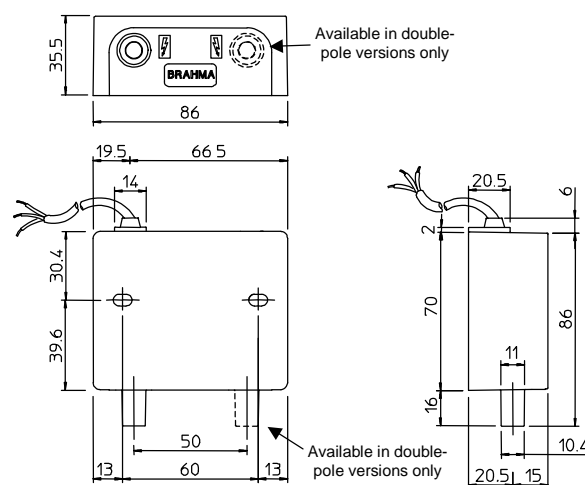
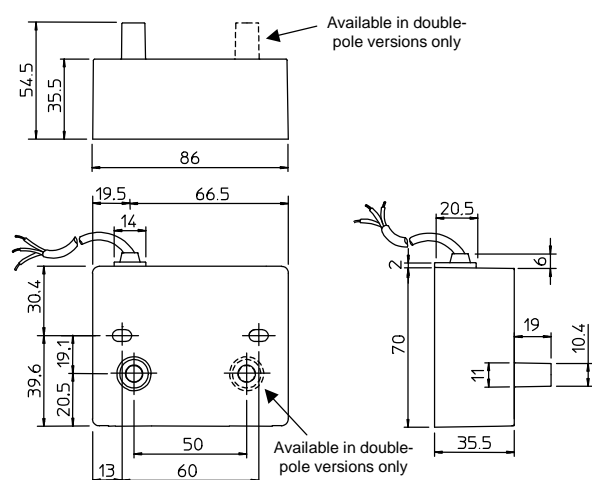
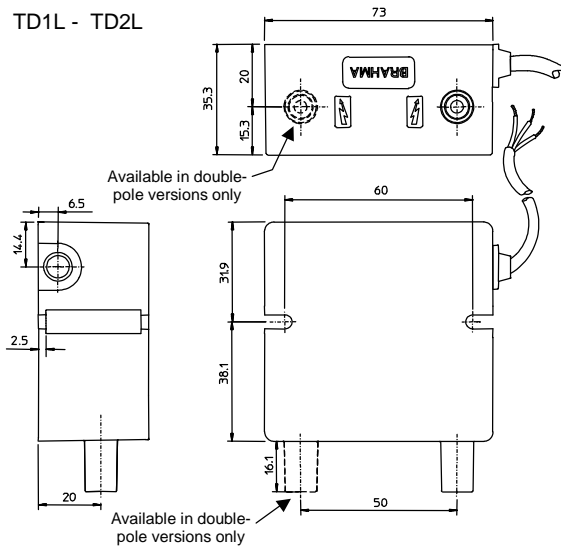
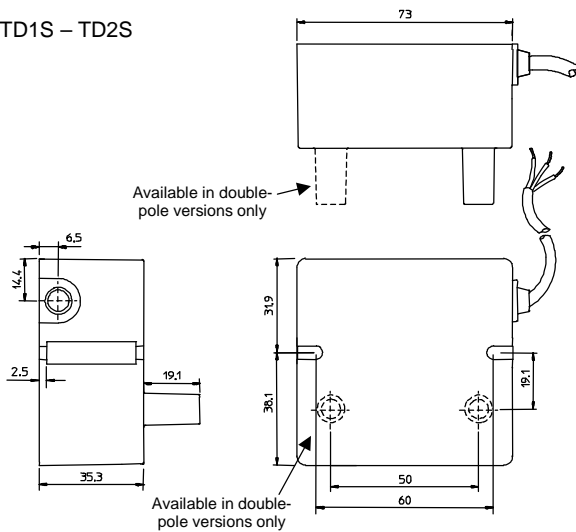

Fig. 1
Fig. 2
Fig. 3
Fig. 4
- C: supplied with cable (Fig. 1, 2, 3 and 4);
- L: lateral isolators (Fig. 1 and 3);
- S: bottom isolators (Fig. 2 and 4);
The TD series differs from the TC series for its more reduced overall dimensions; Fig. 1, Fig. 2, Fig. 3 and Fig. 4 show the main dimensions of both transformer series.